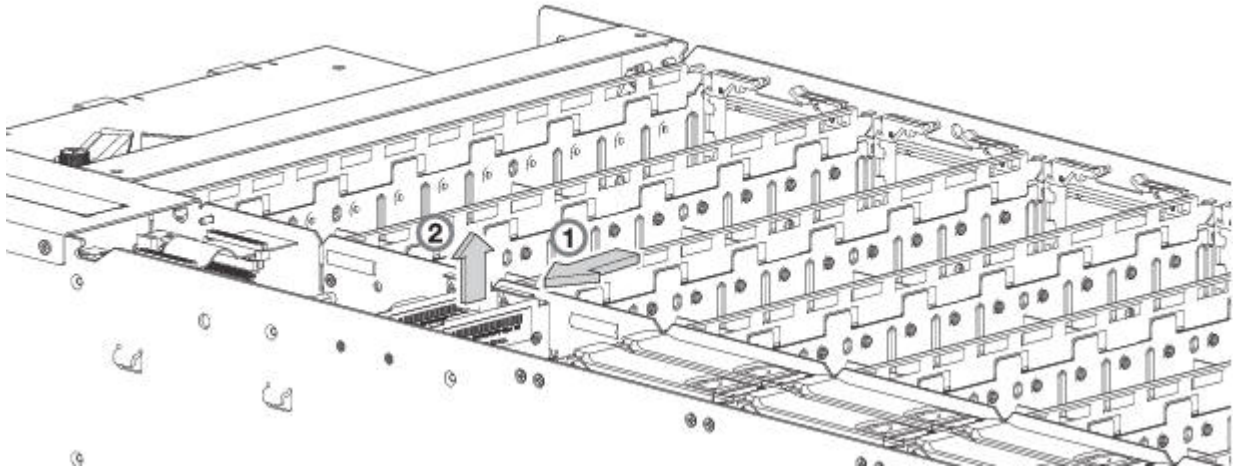
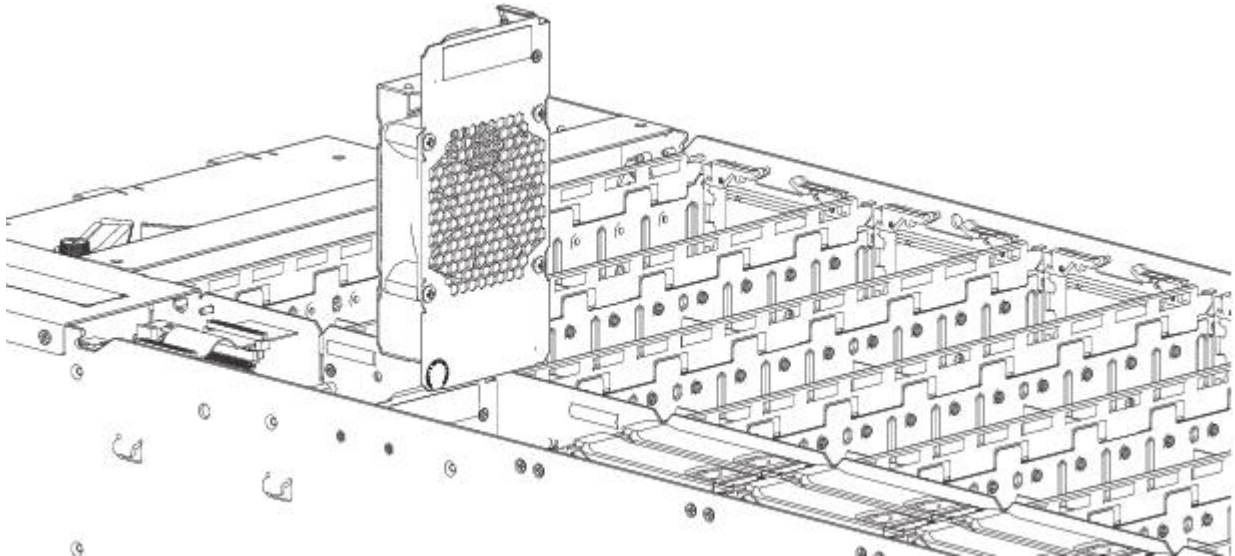

Figure 66. Removing a controller fan (1 of 2)
Figure 67. Removing a controller fan (2 of 2)
1. Grasp the latch tab on the interior channel wall of the enclosure, and squeeze the tab against the wall to release the channel fan from its locked position as shown in Figure 66 on page 73.
2. With your other hand, grasp the handle located on the top of the fan, and pull upwards to remove the fan from its slot as shown in Figure 67 on page 73.
Refer to Figure 66 on page 73 and Figure 67 on page 73 when performing this procedure, but ignore the directional arrow—since you will insert the module into the slot—rather than remove it.